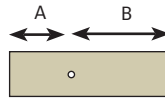
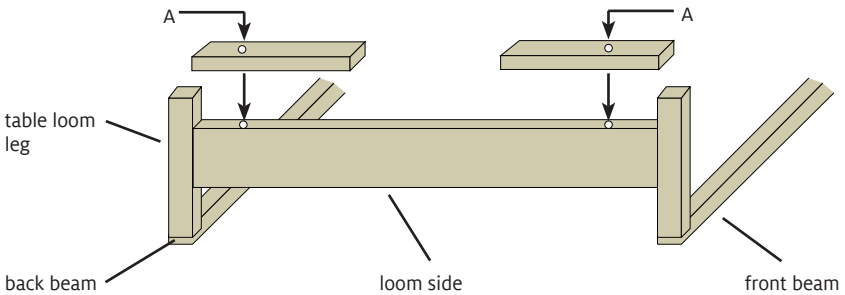

FIGURE 3: DRILL GUIDE
FIGURE 4: 4-SHAFT TABLE LOOM BASE, UPSIDE DOWN WITH CASTLE REMOVED
3. The drill guide has an A and a B end (Figure 3). For a 4-shaft loom, use end A only (Figure 4).